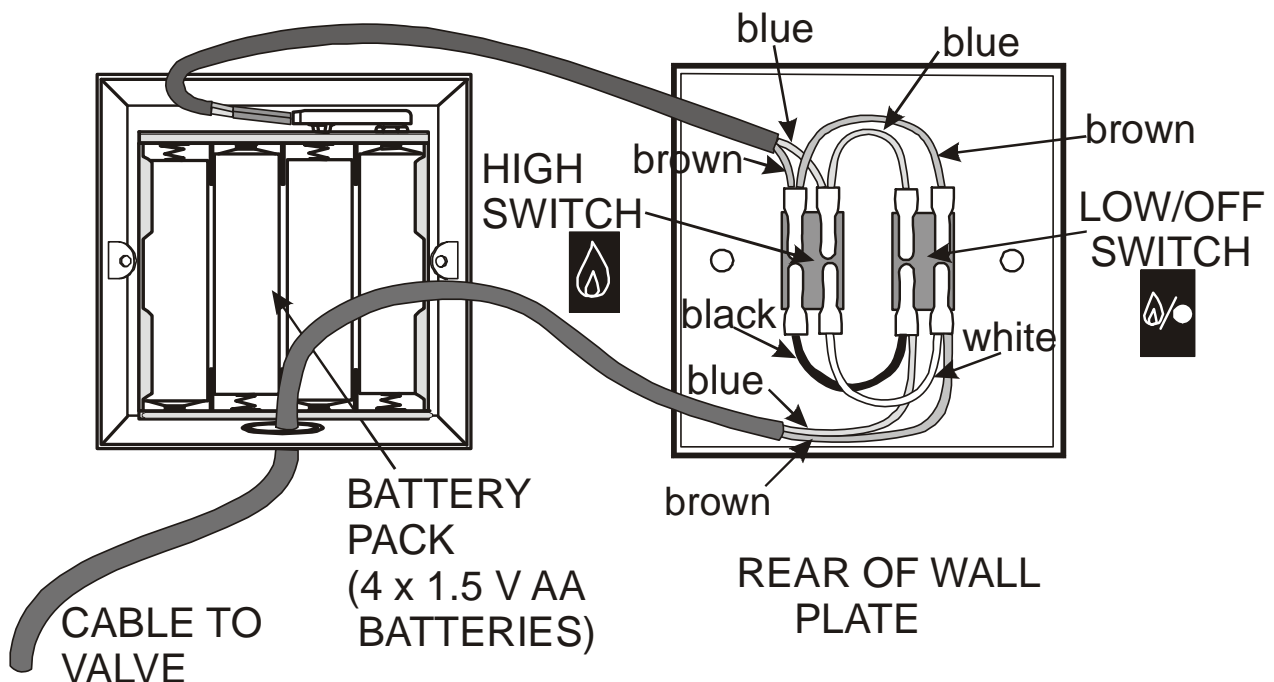

Figure 52
3. Make the connections on the wall switches as shown in **Figure 52**.